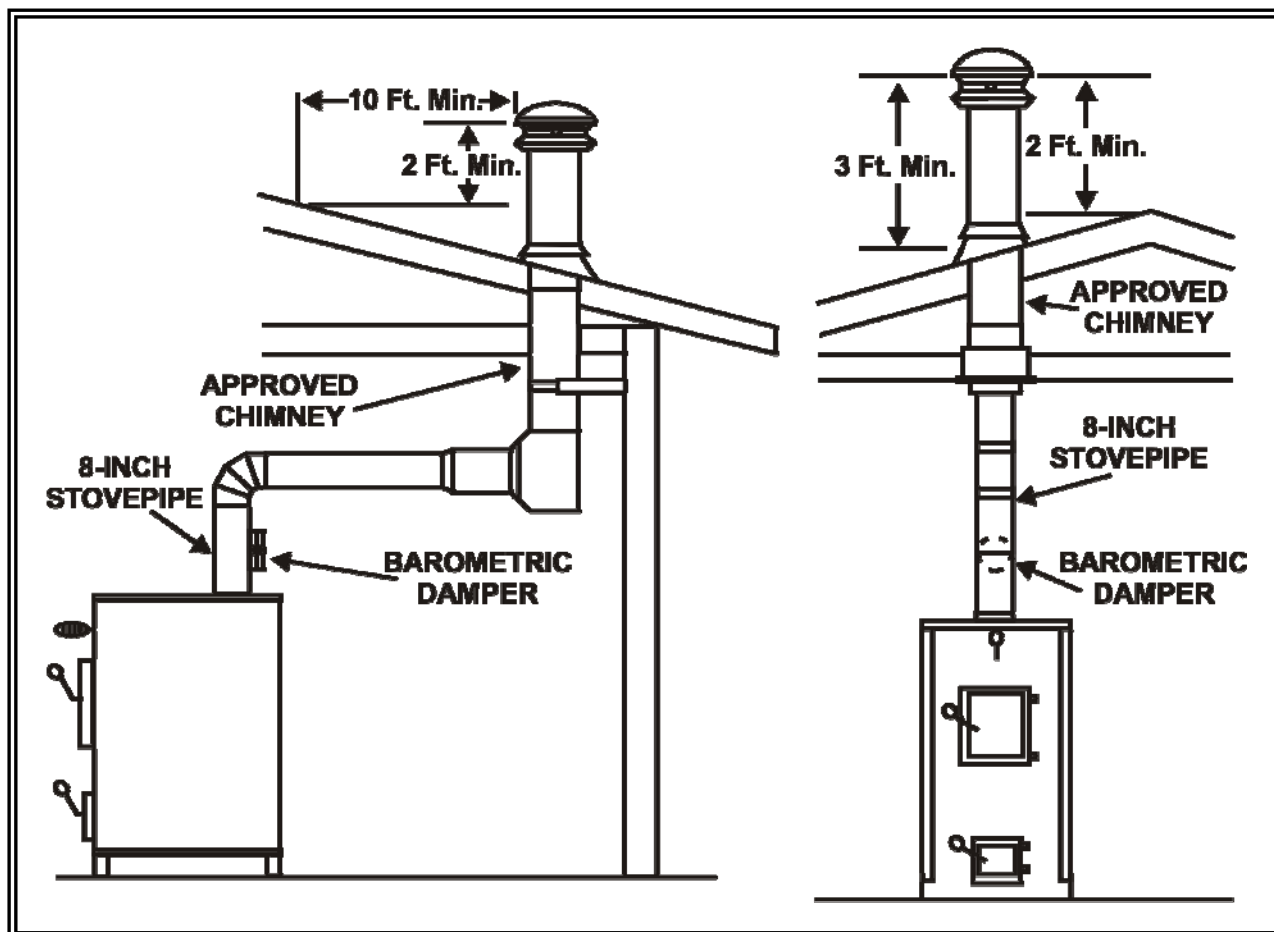
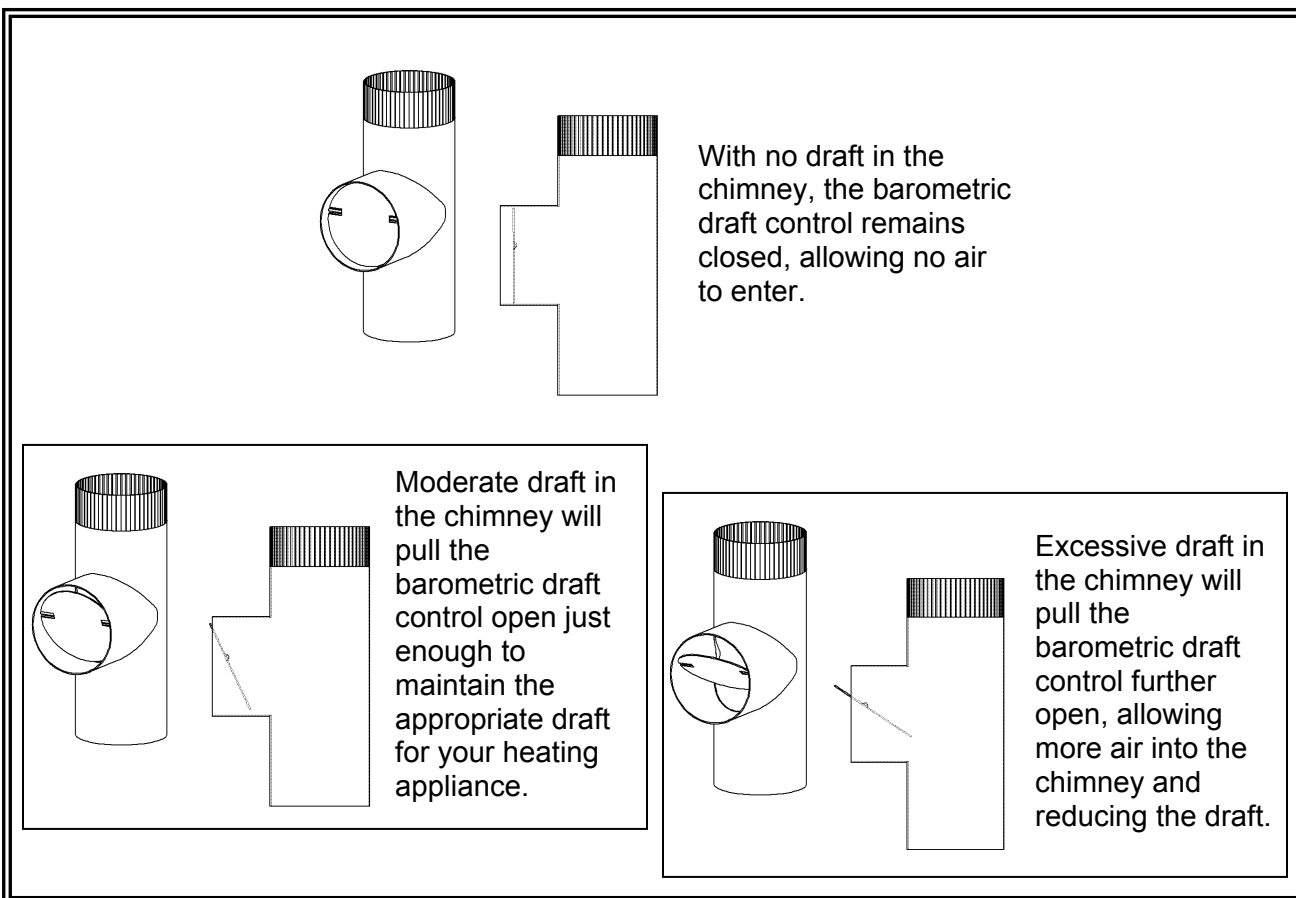

Figure 8: Venting Requirements
Figure 10: Barometric Draft Control
- The chimney must be at least 3 feet higher than the highest point where it passes through the roof, and at least 2 feet higher than the highest part of the roof or structure that is within 10 feet of the chimney, measured horizontally. Please refer to *Figure 8: Venting Requirements*. For best performance, RJM Manufacturing, Inc. recommends a chimney height of at least 12 feet.
A barometric draft control must be installed into the chimney connector. Please refer to *Figure 8: Venting Requirements* and *Figure 10: Barometric Draft Control*.